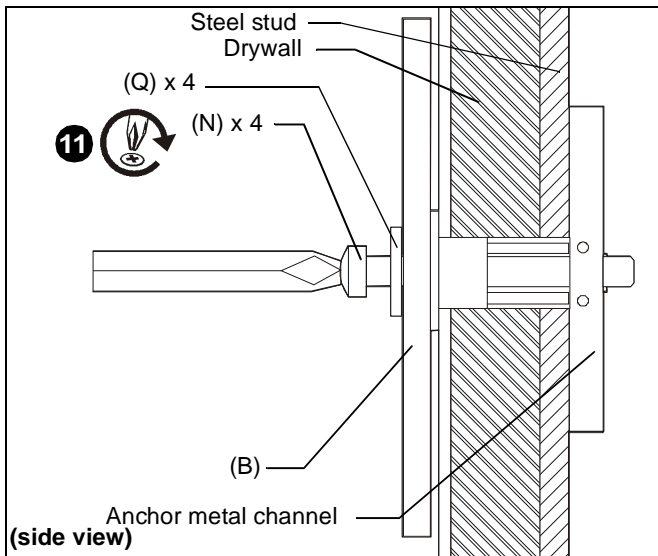

Figure 12
10. Place wall bracket over anchors and align mounting holes in display mount with holes in anchors. (See Figure 12)
11. Insert 1/4-20 x 1-3/4" Phillips pan head screws (N) through 1/4" washer (Q), corresponding mounting hole on wall bracket and into anchor (P) and tighten until flush against mount. DO NOT overtighten! (See Figure 12)